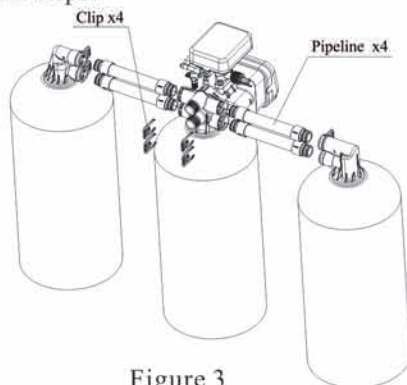

Figure 3
d. As the Figure 3 shows, insert the pipelines to the corresponding connectors on main valve then lock with clips.